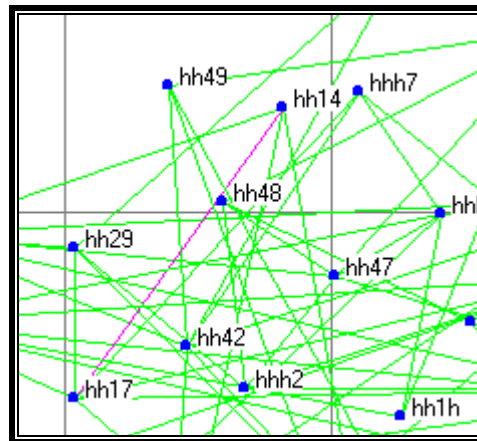

Figure 1-14
- 5) Vectors identified as outliers when adjusting a subnet in the 'Automatic with Blunder Downweighting' or 'Interactive' mode, will be marked in magenta color (e.g., hh14→ hh17 in Figure 1-14).